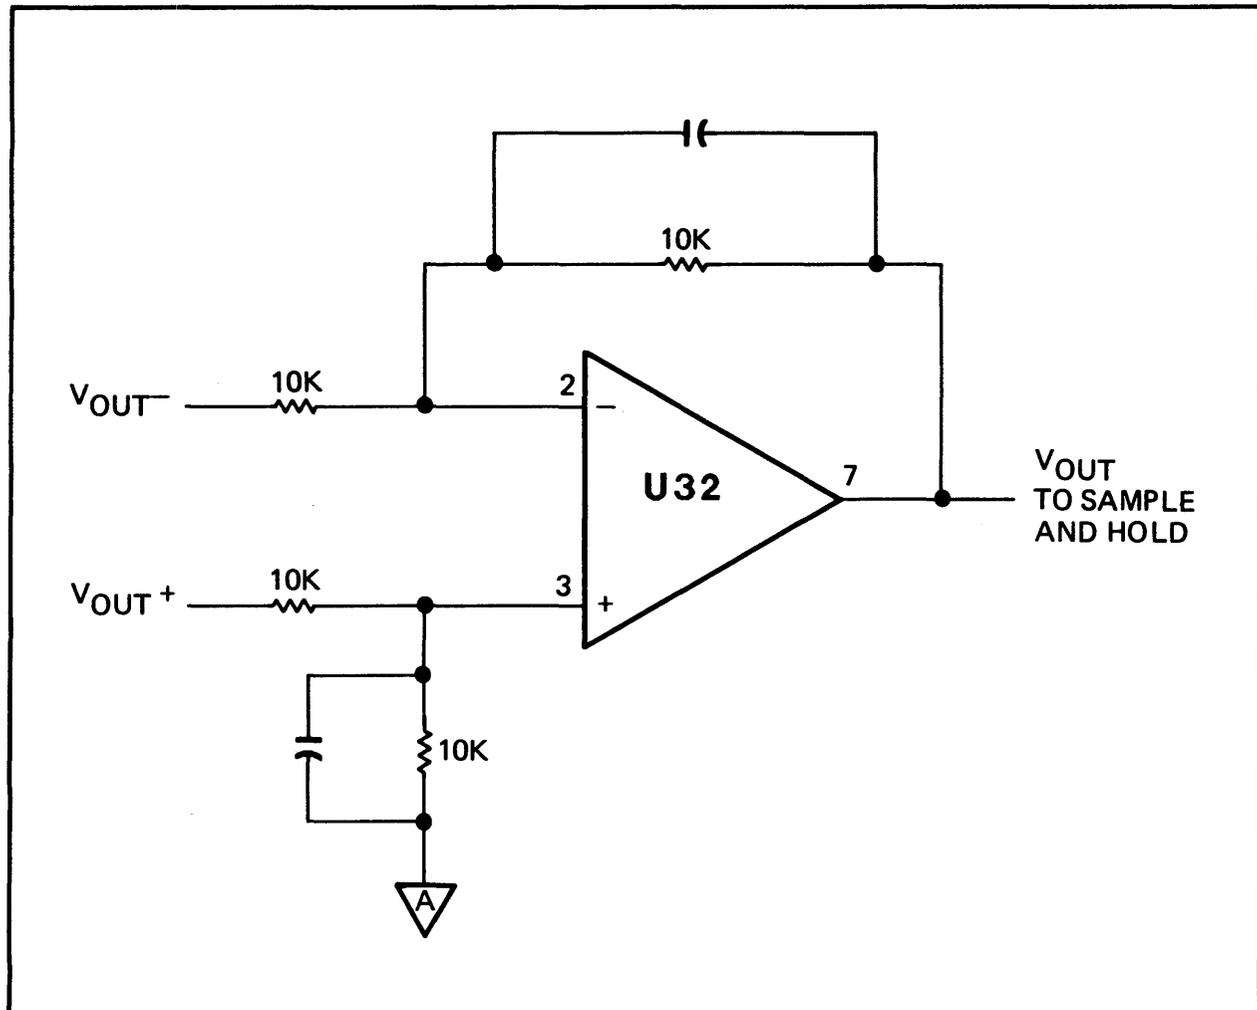

Figure 3-5. Differential-to-single-ended converter
The differential-to-single-ended converter is used to translate the differential output of the PGA to a single-ended voltage that the Sample and Hold (S/H) circuit can handle. The gain through this converter is unity (1). The resistors in this circuit are contained in the precision resistor network (U24), since high precision is necessary to keep the voltages accurate. Figure 3-5 is a diagram of the converter circuit.